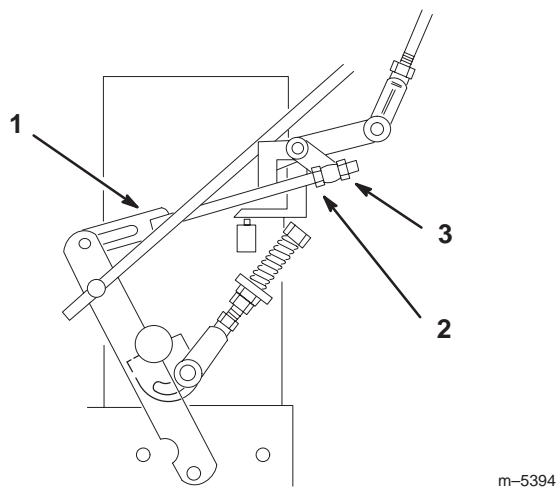

Figure 39
5. Loosen the front nut on left hydro control linkage as shown in figure 39.
6. Turn the left rear adjusting nut counter-clockwise until wheel rotates forward (Fig. 39).
7. Turn the rear adjusting nut clockwise 1/4 of a turn at a time. Then move the speed control lever forward and back to neutral. Repeat this until left wheel stops rotating forward (Fig. 39).